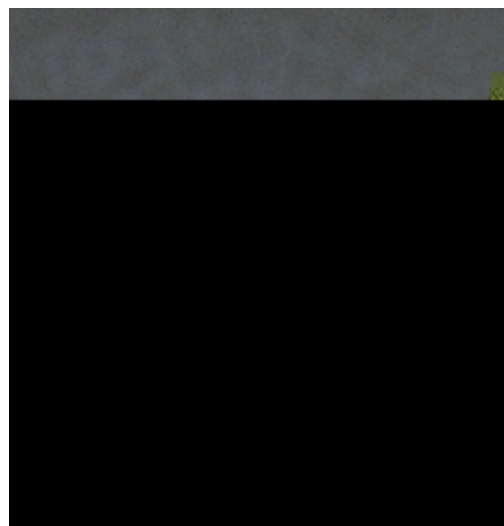

Fig. 1
2. Turn the end cap(1) counter clockwise to remove from the plastic housing(24), avoiding the use of tools. If the end cap(1) has been over tightened onto the housing assembly and cannot be loosened by hand, you may use a small strap wrench to loosen it while holding the second stage firmly in place, flat on its side on the repair bench.
3. Firmly grasp the low pressure hose at the fitting with one hand, and pull the housing assembly straight away with the other. Ensure that the valve module does not exit at an angle to the housing, as this may bend the control valve lever arm. (Fig. 1)